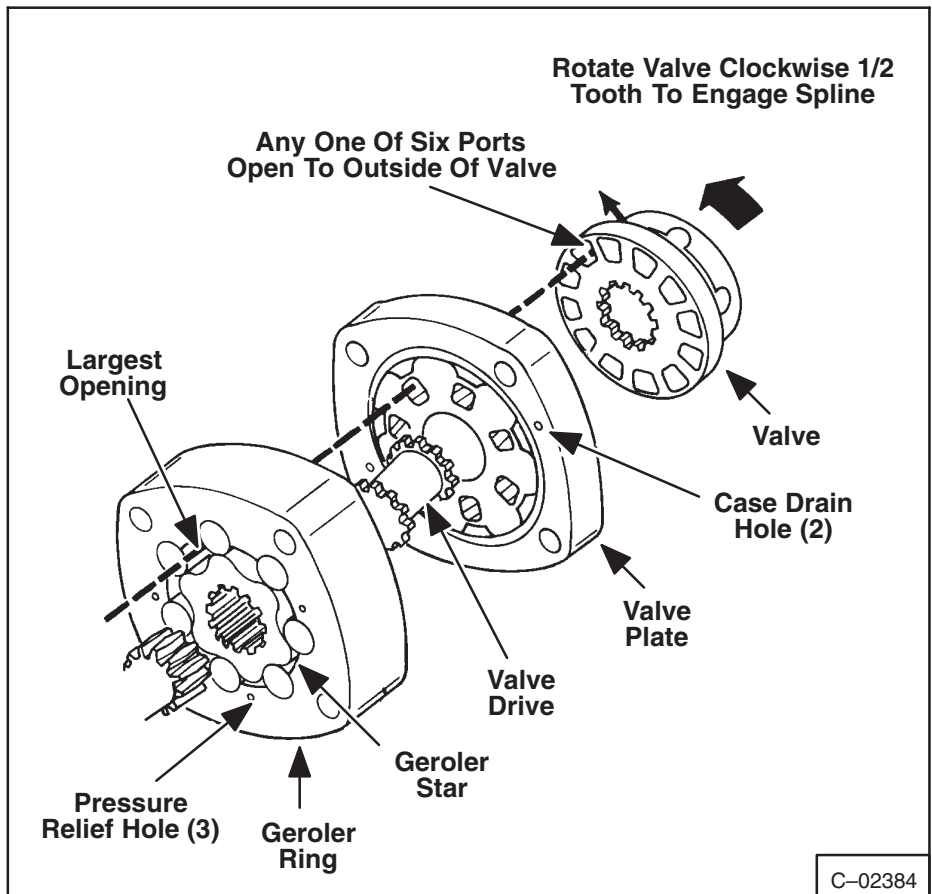

Fig. 3-70 Timing The Motor
The timing of the motor controls the direction of rotation of the drive shaft of the motor. The timing parts are as follows (Fig. 3-70):
18. Find the largest opening between the geroler star and the geroler ring and mark the outside of the geroler ring at the location (Fig. 3-70).
20. Install the valve drive in the geroler (Fig. 3-70, Item 3).
**NOTE:** When looking through the seven holes (Fig. 3-70, Item 5) in the valve plate if you can see a roller in all the holes, it is assembled incorrectly, the motor will lock-up.